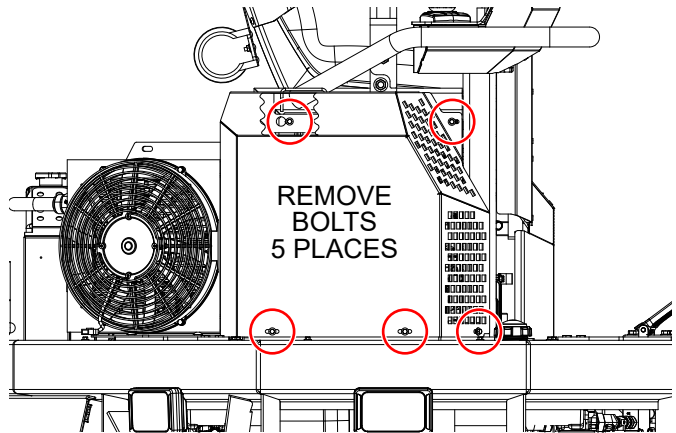

Figure 53. Right-Side Cover Removal
3. Remove the five bolts securing the right-side cover (Figure 53) to the frame. Set the cover and bolts aside.